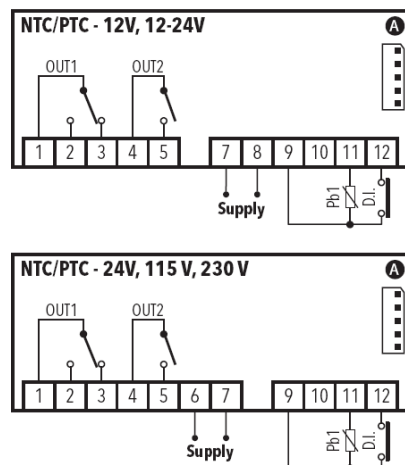

Fig 1.. ICPlus 915 controller wiring.
CXE and CX(A)E units with Eliwell ICPlus915 controller have Digital Input, which may be used to Enable controller or put in Standby Mode remotely. Fig 1. shows how to use Volt-free Digital Input. After wiring input you should change parameters H11 and H13, so controller know how it should operate in accordance with DI status. We recommend to set H11 – **3** (Outputs stopped); H13 – **noP**(2) or **ncP**(3) dependant on operation logic you want.